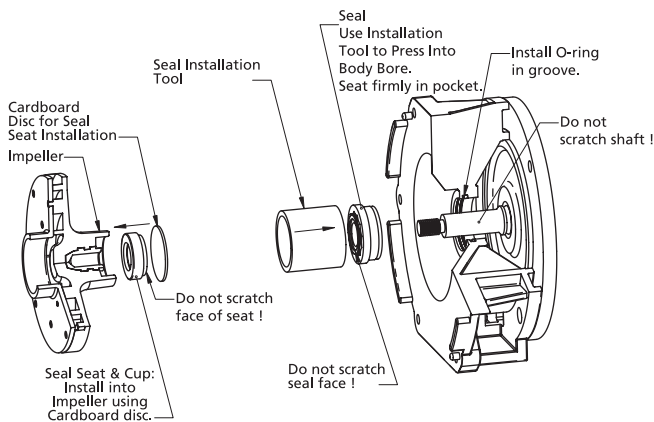

Figure 2 - Seal Install
7. The ceramic seat is located on the back side of the impeller (part of Ref. No. 5). Pry the seat out by using a screwdriver in the inside hole (see Figure 2). Be careful not to damage or scratch the inside surfaces of the bore holding the seat. Such scratches can cause leaks. Replace the impeller if such damage occurs.
9. Use a wooden dowel to push out the mechanical seal (part of Ref. No. 5) from the body adapter (Ref. No. 1) (see Figure 2). Do not dig the seal out from the front.
3. Wet the rubber portion of the new seal seat (part of Ref. No. 5) with a light coating of soapy water. While wearing clean gloves or using a clean light rag, press seal seat squarely into impeller recess. Use the cardboard washer (usually supplied with new seal) to place over the polished ceramic surface and use a piece of pipe or dowel rod to press in firmly but gently (see Figure 2). Avoid scratching the ceramic face, usually white.
6. Screw impeller (Ref. No. 4) onto shaft. Use screwdriver slot at rear of motor shaft (opposite the threaded end) to tighten impeller to 150 in-lbs. of torque (see Figure 2).